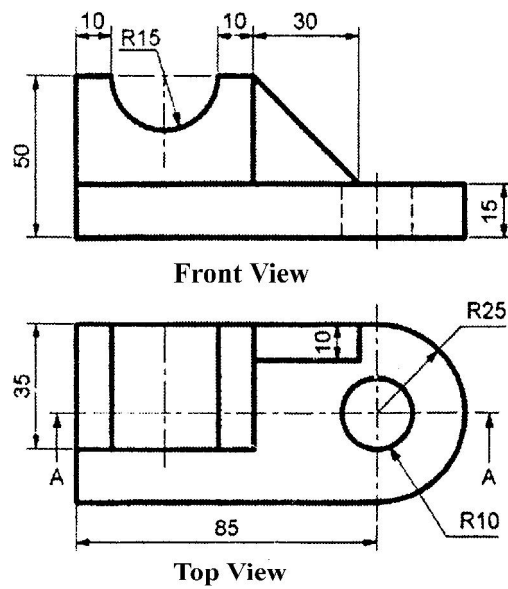

Fig. 5.1
- (a) Fig. 5.1 shows front view and top view of an object. Draw :